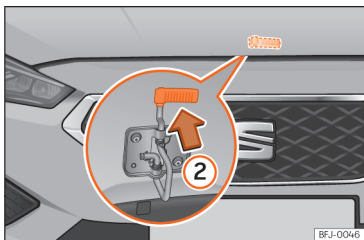

Fig. 14 Cam under the bonnet
- To lift the bonnet: press the release catch under the bonnet upwards »» Fig. 14 ②. The arrester hook under the bonnet is released.